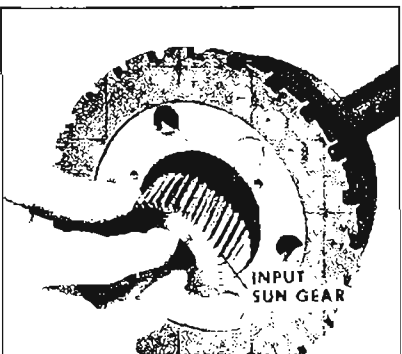

Figure 5-266
7. Install input sun gear into planet carrier. See Figure 5-266.